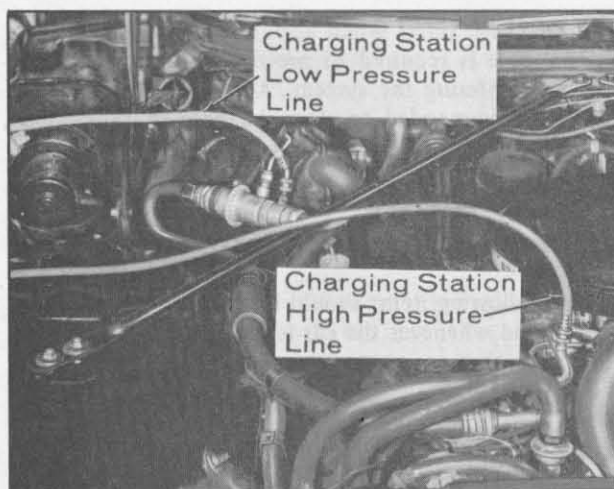

Fig. 1-102 Connecting Charging Station Lines
4. Connect charging station high pressure line to fitting on high pressure line and low pressure line to gage fitting on suction throttling valve, Fig. 1-102.